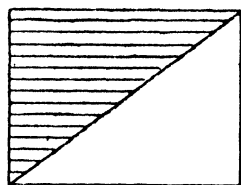
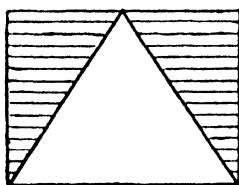

FIG. 5.
FIG. 6.
**EXERCISE 7.**—Fold a piece of scrap paper exactly in quarters and separate the four rectangles. Place one over the other to see if all are the same size. This is called *superposition*. Draw the diagonal across one rectangle and cut the figure through along the diagonal. Observe that two equal right-angled triangles are formed (Fig. 5). Prove them equal by superposition. Similarly make isosceles and scalene triangles, as in Figs. 6 and 7, and by superposing the waste pieces on the triangles prove that the area of these several triangles is in each case *half* the corresponding rectangle or half the base times the height. By choosing suitable rectangles, equilateral and also obtuse-angled